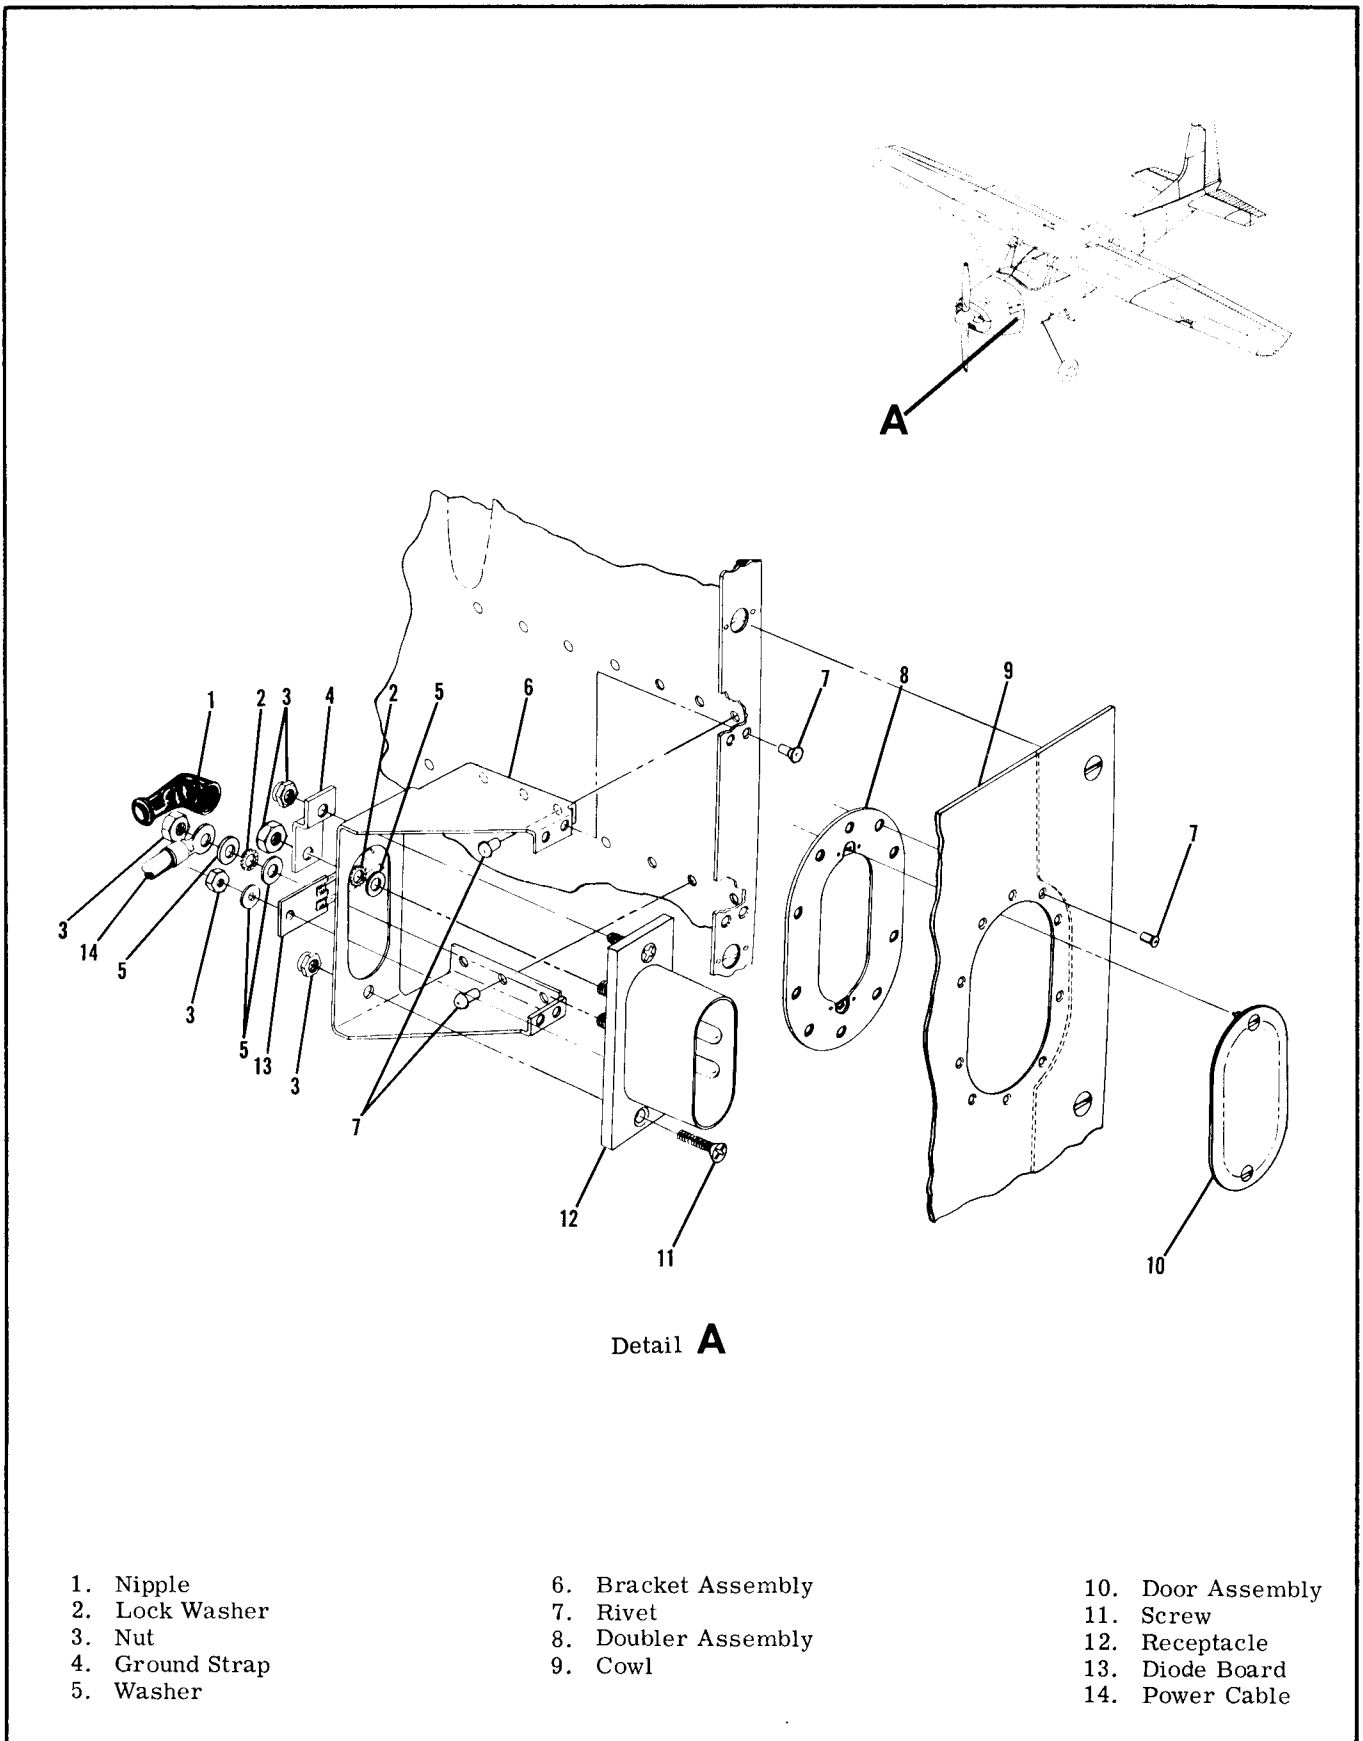

Figure 16-2. Ground Service Receptacle Installation
(Refer to figure 16-2.)
**16-24. REMOVAL AND INSTALLATION.** (Refer to figure 16-2.) The battery box is riveted to the mounting brackets in the tailcone. The rivets must be drilled out to remove the box.
battery contactor. The small terminal of the diode and the master switch wire connect to the coil terminal of the battery contactor. Nylon covers are installed on the contactor terminals to prevent accidental shorts. (See figure 16-2.)